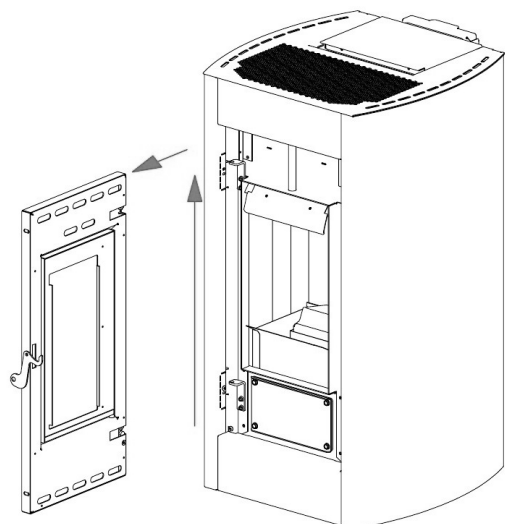

Fig. 33 - Door removal
- Lift the door to allow the door pivots to slide out of the structure bracket (see **Fig. 33**).